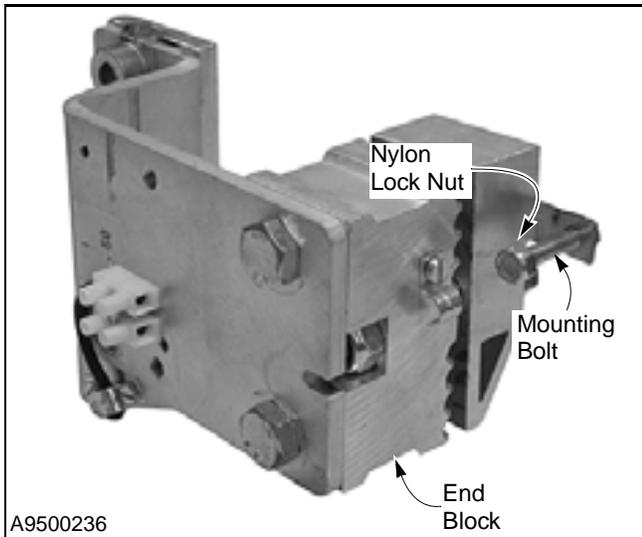

Figure 71
2. On the end block assembly, remove the nylon lock nut from the E-chain mounting bolt. (See Figure 71.)